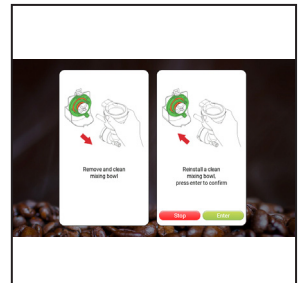

Fig.6
5. The display will show **REINSTALL A CLEAN MIXING BOWL, PRESS ENTER TO CONFIRM**. Press ENTER. (See Fig.6).